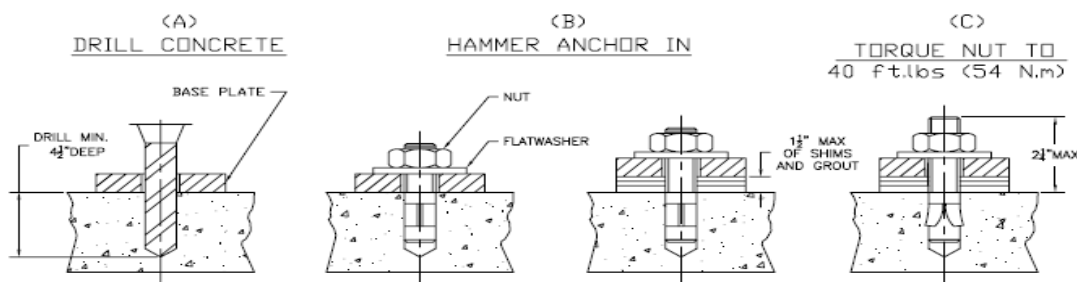

Figure 22 – Anchoring
3. Using a rotary hammer drill and a 1/2" concrete bit, drill through the floor at each of the four (4) anchor bolt locations on each of the base frames. Refer to **Figure 22**.